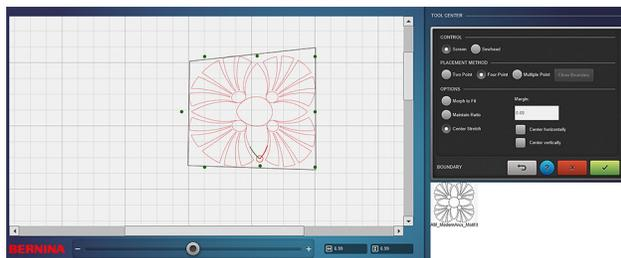

Fig. 40
- Using Center Stretch (Fig. 40); this allows the design to be “stretched” by activating any of the eight nodes as the stretch point. Activate a node by a single right-click of the mouse or touch and hold on the PC screen. The active node is green.